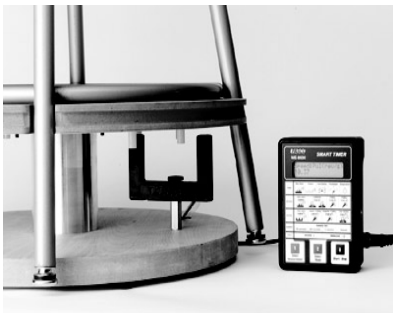

Figure 5a
1. Use the included thumbscrew to attach the Photogate Head to the bracket on the bottom platform. (See Figures 5a and 5b).